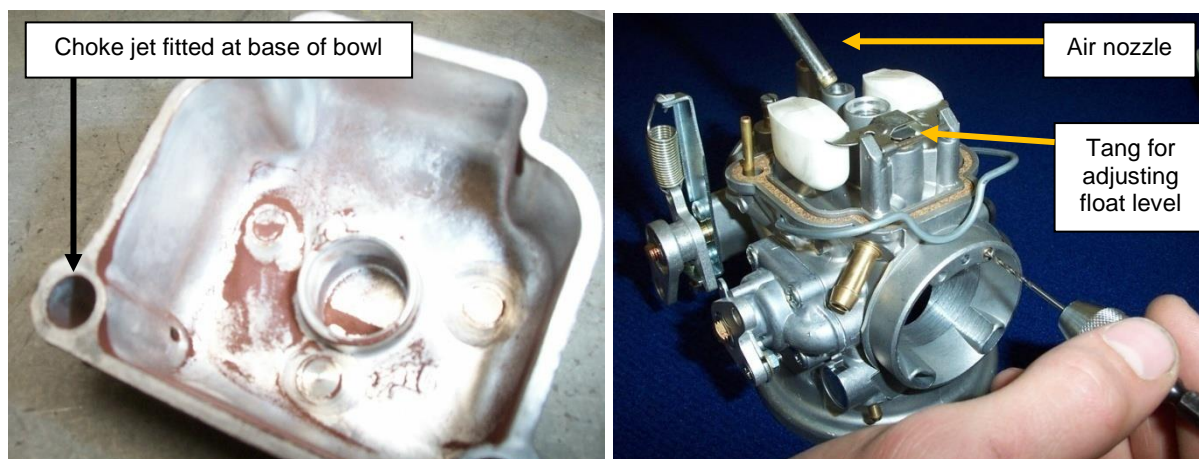

Figure 113 – Carburettor Updates
- To improve cold starting the choke jet may be enlarged. Drilling to 1.2mm is recommended for Australian applications. The choke jet is located in the bowl as shown in Figure 113 (left).
- To improve the engine's idle the idle jet port must be drilled out to 1.6mm. This is done at the factory during assembly but is worth checking at overhaul. Figure 113 (right) shows the drilling being done by hand. Note the air nozzle blowing into the idle jet to force the aluminium shavings from the drill out of the carburettor.
- On initial disassembly, check for contamination like that shown in Figure 113 (left). Contamination like this will be an early indicator for increased wear in the engine and will warn the overhauler to check thoroughly for wear on parts like cylinders.